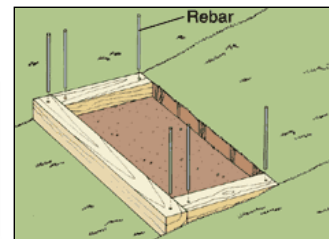

Figure 4
STEP 4. Prepare materials by cutting the timbers to the appropriate length. For each step, cut one riser timber as long as the step width and 2 timbers as long as the step depth for the side timbers (remember that each step should extend 6" past the next step's riser.) Drill $\frac{1}{2}$ " diameter holes approximately 6" from the ends of each timber (figure 4).
STEP 5. Position the timbers in the step and remove or add soil as needed to level them (figure 4).
STEP 6. Anchor the timbers by driving the steel rebar through the drilled holes on the end of each timber and into the ground. Make sure the rebar is level with the timber surface or slightly recessed since the edges may be sharp (figure 4).
STEP 7. Shovel out the soil inside the step to create a surface roughly level with the bottom of the timbers. Additional soil can be removed to provide more area for infiltration if desired. Make sure to dispose of excavated soil in a place where it will not wash away (figure 4).